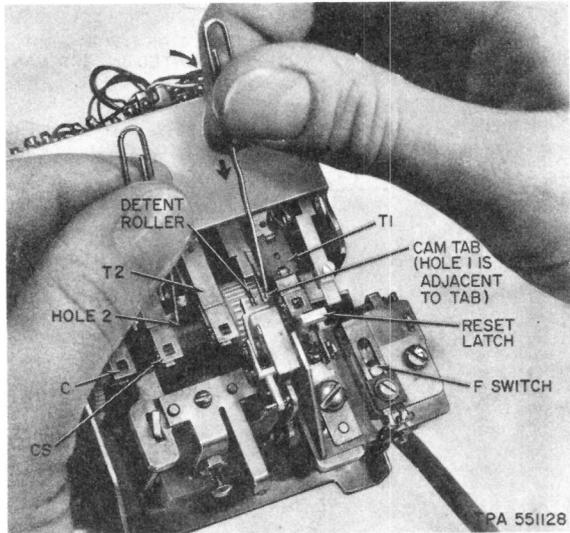

Fig. 11—Increasing Totalizer Rate (Typical)
Increasing Rate (Fig. 11)
- (2) Further rotate shaft approximately 10 steps until a tab on the T1 cam is accessible as shown in Fig. 11 and 12.
- (3) Insert a KS-21107 releaser or a paper clip into one of the four holes indicated as hole
If hole 1 in T1 cam has been mutilated or clogged preventing use, place releaser or paper clip against tab as shown in Fig. 11 and push tab in direction of the straight arrow.